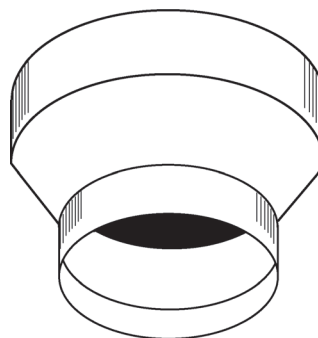

FIGURE 11
The (A)BCG385T500-8N/(A)BCG385T500-8P model is shipped with a 6" to 8" diameter vent adapter (Fig. 11). The vent adapter fits on top of the installed blower exhaust. Use only vent adapters supplied with the unit. The venting must comply with the NATIONAL FUEL GAS CODE, ANSI Z223.1/NFPA 54 and for Canadian installations consult the Canadian Installation Code CAN/CSA B149.1-00.